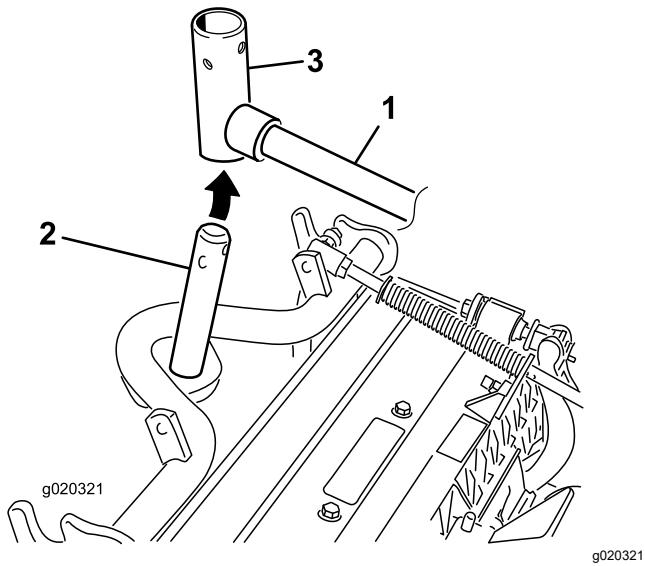

Figure 7
9. For the front cutting units, slide a cutting unit under the lift arm while inserting the carrier frame shaft up into the lift-arm pivot yoke (Figure 7).
B. Insert the lift-arm yoke onto the carrier frame shaft (Figure 7).